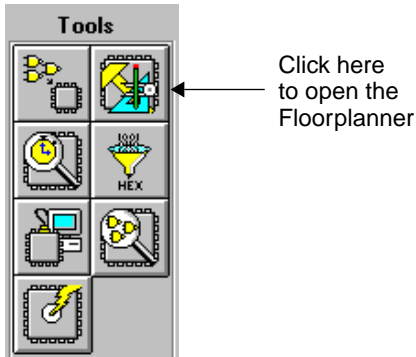

Figure 3-26 Toolbox
1. Start the Floorplanner by clicking on the Floorplanner icon in the Design Manager's Toolbox as shown in Figure 3-26.